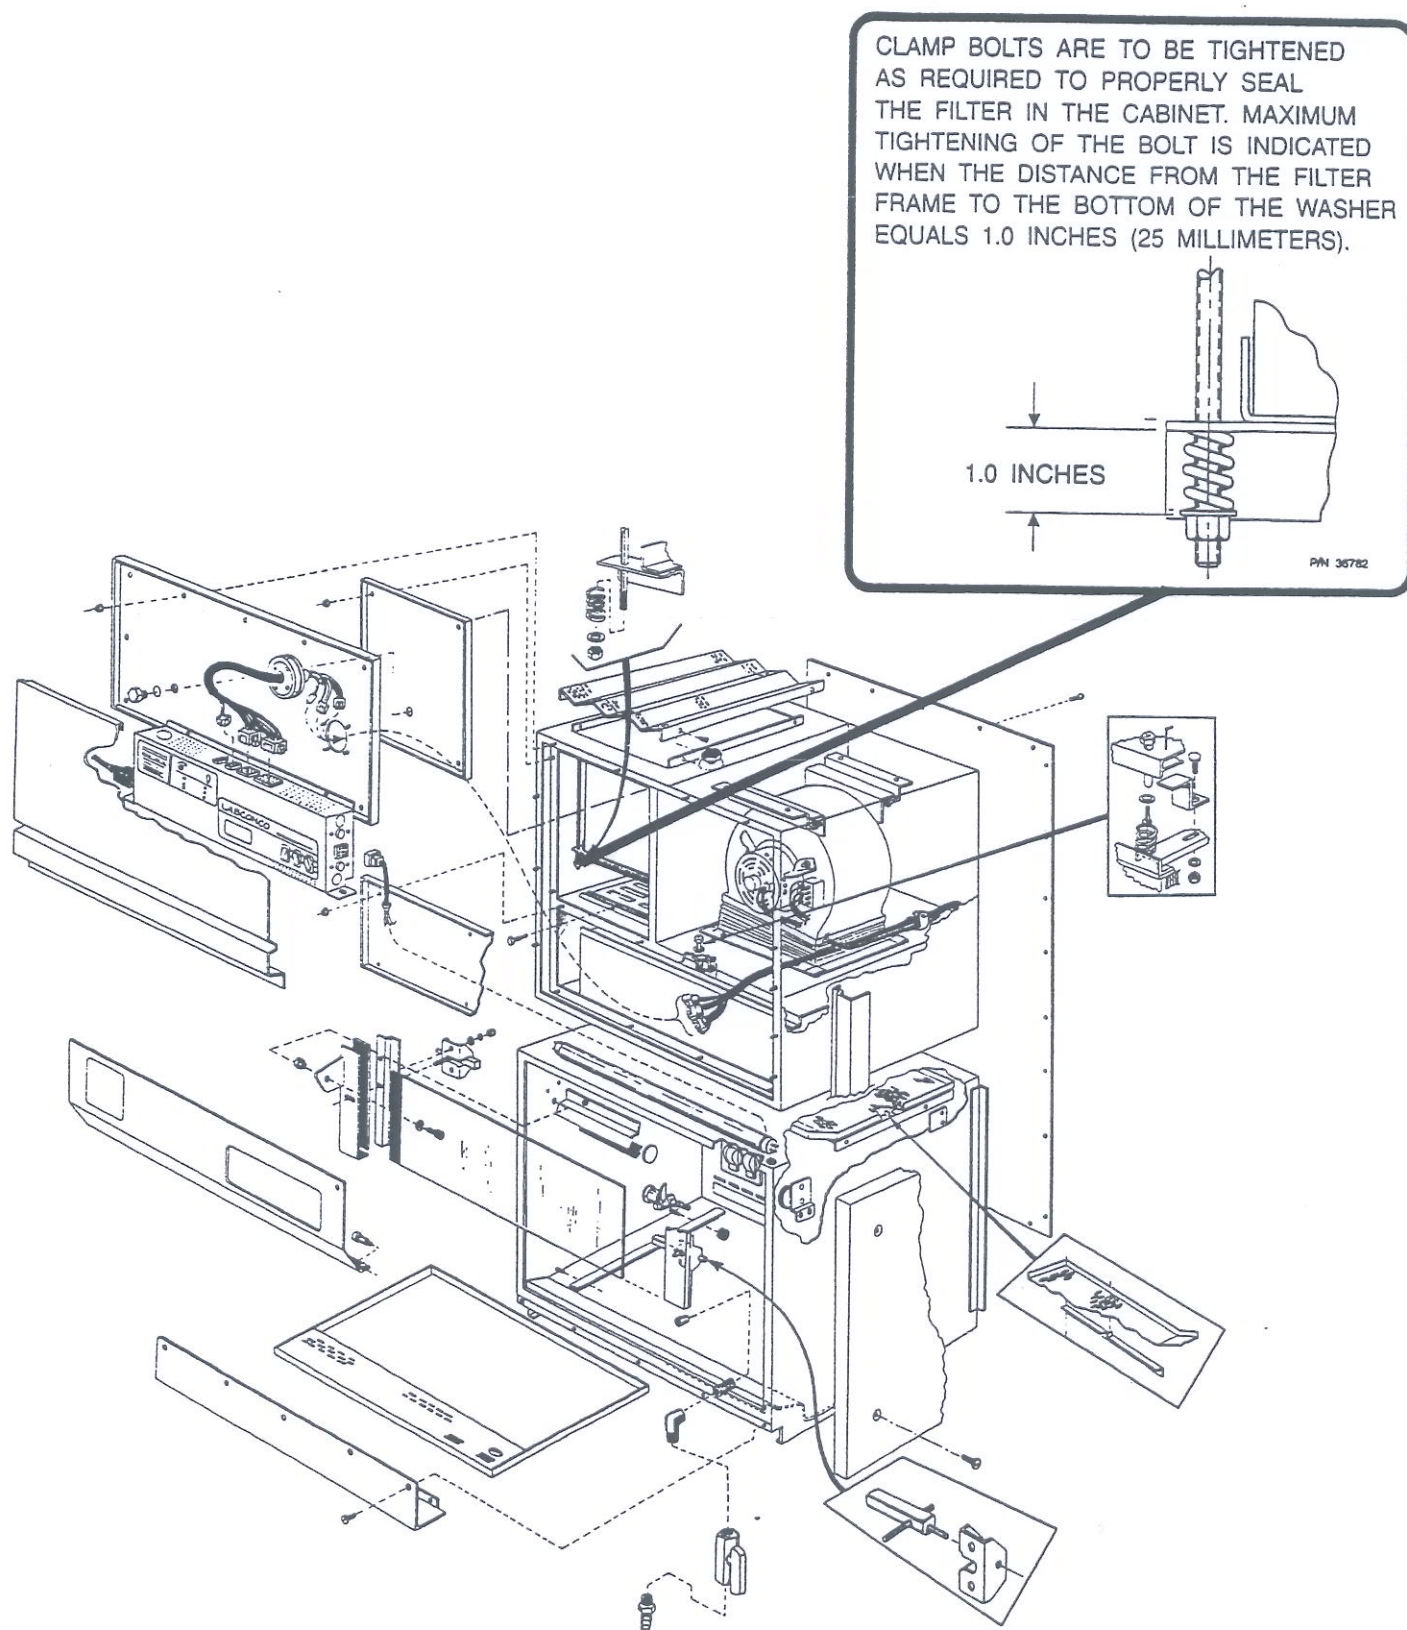

Figure 17
- (1) Unplug the cabinet.
- (2) Remove the front dress panel as described on page 29.
- (3) Remove the electronics module as described on page 31.
- (4) Remove the front corner dress panels located on both sides of the cabinet by loosening the two nuts on the inside of the panels.
- (5) Loosen and remove all of the nuts on the blower chamber cover. Gently rock the cover and pull it straight off.
- (6) Loosen and then remove all of the bolts on the front of the exhaust filter cover.
- (7) Gently rock the cover, and pull it straight off.
- (8) Using a 9/16 inch wrench or socket, loosen the exhaust filter clamp nuts located in the front and back corners of the exhaust filter. See Figure 17, on page 38.
- (9) With the clamp nuts loosened, the exhaust filter should be clear of the cabinet frame. Carefully pull the exhaust filter straight out of the unit and discard properly.
- (10) With the exhaust filter removed, inspect the clamping frame and the frame of the cabinet for damage.
- (11) Cover the surface of the new HEPA filter gasket with silicone grease.
- (12) Install the new exhaust HEPA filter by pushing it straight into the cabinet, ensuring that it is correctly oriented and the filter fits properly in the cabinet.
CAUTION: The exhaust filter clamp nuts should only be tightened enough to ensure a proper seal. At proper adjustment, the distance between the filter frame and the bottom of the filter clamp nut should be 1 inch. **NEVER** tighten the clamp nut beyond this setting. See Figure 17, page 38.